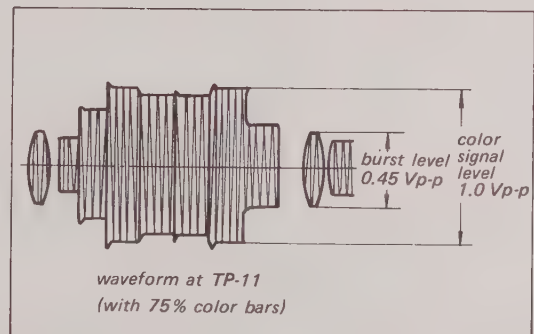

Fig. 8-26. ACC adjustment
6. Adjust R135 (ACC Level) for a burst amplitude of 0.45V (p-p) (or 1.0V (p-p) chrominance (if 75% color bars are used). See Fig. 8-26.